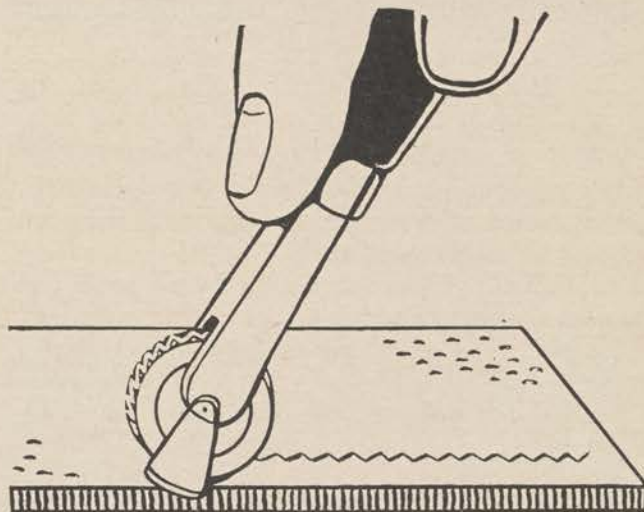

Figure 27.
d. The embossing wheel, which can be purchased in a variety of patterns, is really a cylindrical stamp used chiefly for borders (fig. 27). The leather is